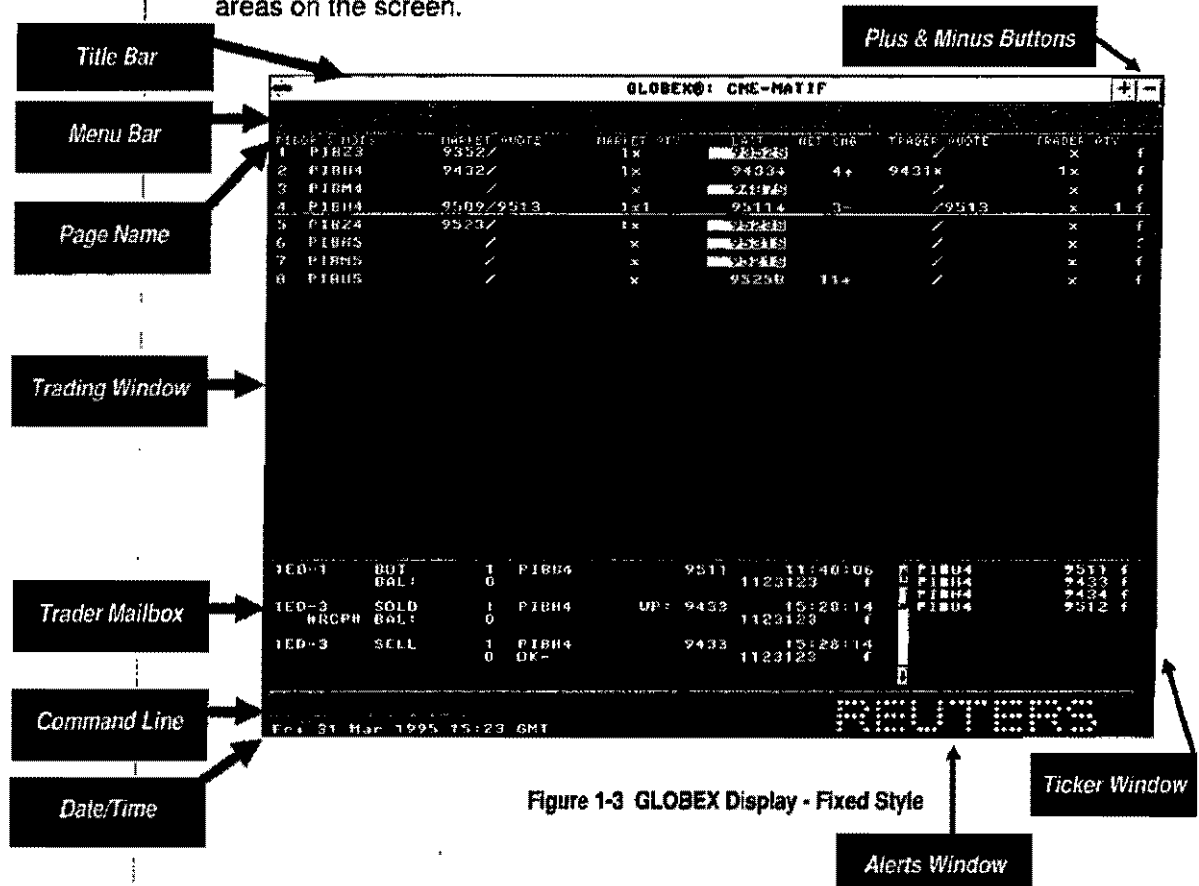

Figure 1-3 GLOBEX Display - Fixed Style
Figure 1.3 shows a typical GLOBEX display and identifies the windows and areas on the screen.
- **Fixed** where the Trading window, Trader Mailbox, and Ticker window display in fixed positions, as shown in Figure 1.3.